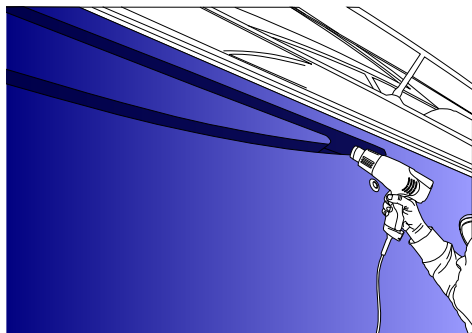

Figure 07
- › When the installation is finished, reheat all areas that underwent heavy deformation to between 80 °C and 90 °C (176 °F and 194 °F) to definitely thermoform the product. (FIG. 07)